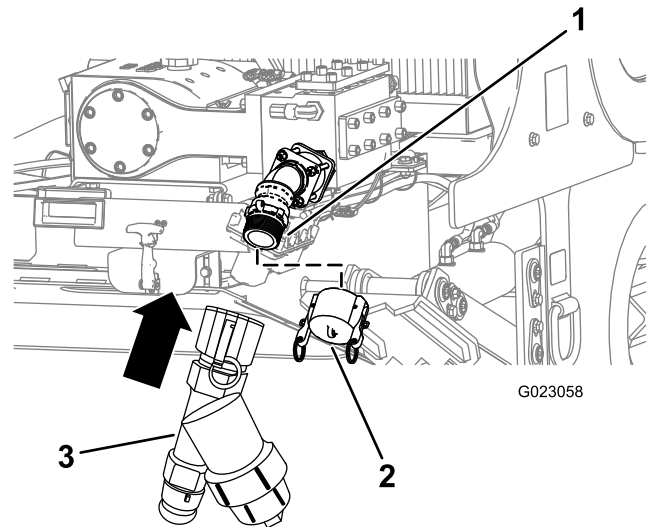

Figure 26
1. Remove the pump-inlet cap (Figure 26).
2. Align the Y-screen with the threads on the pump (Figure 26).